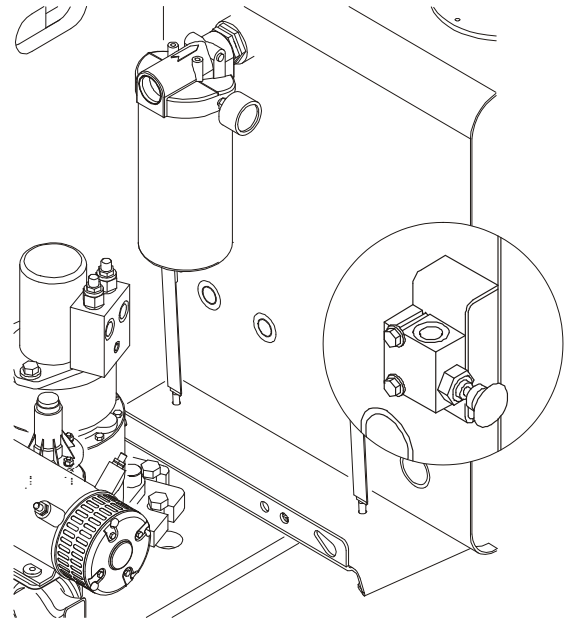

Figure 4-12. Releveling Valve
A pull type control valve allows the operator to adjust the upright level cylinder if the upright is not 90° (vertical) relative to the chassis (Refer to Figure 4-12.). This valve is located in the tank compartment area.
3. Pull and hold the red re level knob located next to the main control valve. Refer to (See Figure 4-12.)